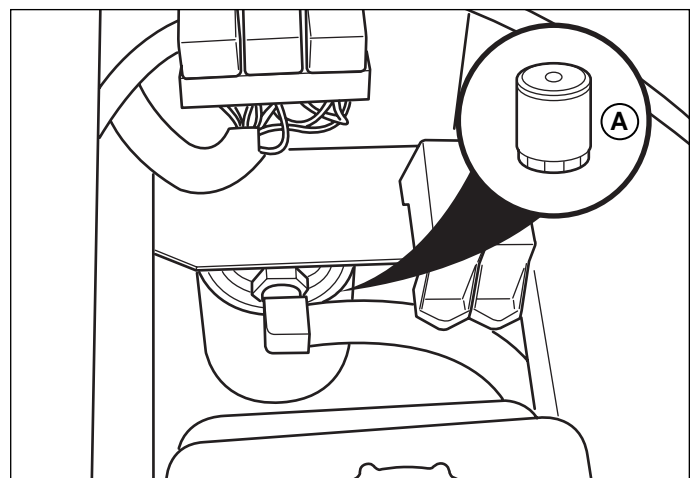

Figure 15. Hydraulic Oil Filter Location
1. Locate the hydraulic oil filter (A, Figure 15) behind the oil reservoir.